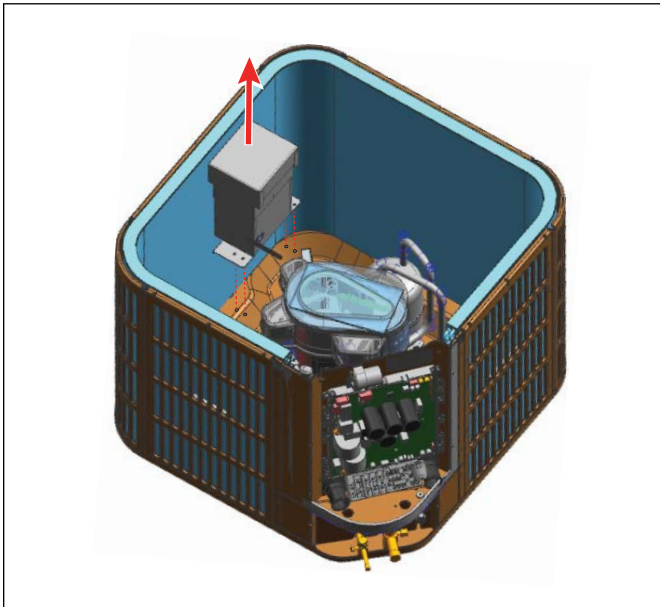

Figure 8 Reactor Box Removal
11. Unscrew 4 screws to remove reactor box and white wiring harness. This is not needed for the new control board. Refer to Figure 8.